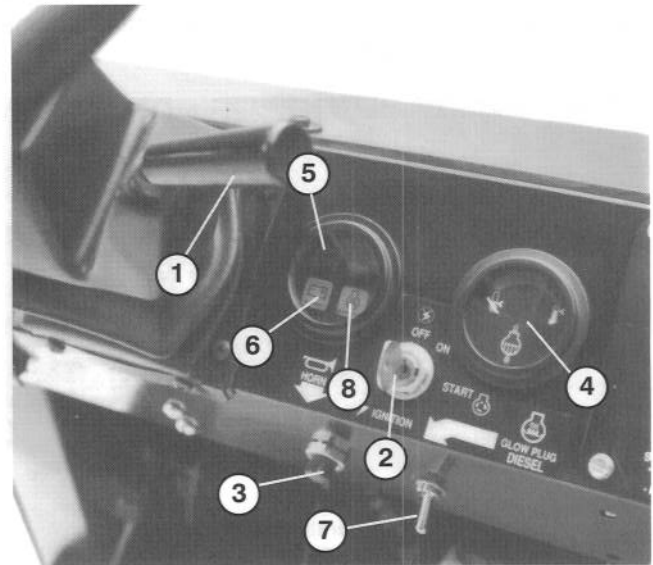

Figure 19
Tilt Steering Lever (Fig. 19) — Lever on right side of console allows steering wheel to be adjusted for operator comfort.
Coolant Temperature Gauge (Fig. 19) — Registers coolant temperature in engine. Operates only when ignition switch is in On position.
Horn Button (Fig. 19) — Pressing button activates horn.
Engine Low Oil Pressure Light (Fig. 19) — Light glows if engine oil pressure drops below a safe level while engine is running. If light flickers or remains ON, stop vehicle, turn off engine and check oil level. If oil level was low, but adding oil does not cause light to go out when engine is restarted, turn engine off immediately and contact your local TORO distributor for assistance.
Glow Plug Switch and Indicator (Fig. 19) — Use to preheat engine cylinders prior to cold engine starting procedures — cylinders are preheated automatically during warm engine start operation. For cold starting, push switch lever upward and hold while watching indicator. Indicator will glow orange when the glow plugs are activated. Length of time necessary to preheat cylinders should be determined by atmospheric temperature; refer to Starting /Stopping Engine.
Ignition Switch (Fig. 19) — The ignition switch, used to start and stop the engine, has three positions: OFF, ON / Preheat and START. Rotate key clockwise — START position — to engage starter motor. Release key when engine starts. The key will move automatically to the ON position. To shut engine off, rotate key counterclockwise to OFF position.
Charge Indicator (Fig. 19) – Illuminates when battery is being discharged. If light illuminates during operation, stop vehicle, turn Off engine and check for possible causes, such as alternator belt.
5. When temperature is below 15°C (60°F), push glow plug switch upward to ON position (Fig. 19) and hold for suggested interval.